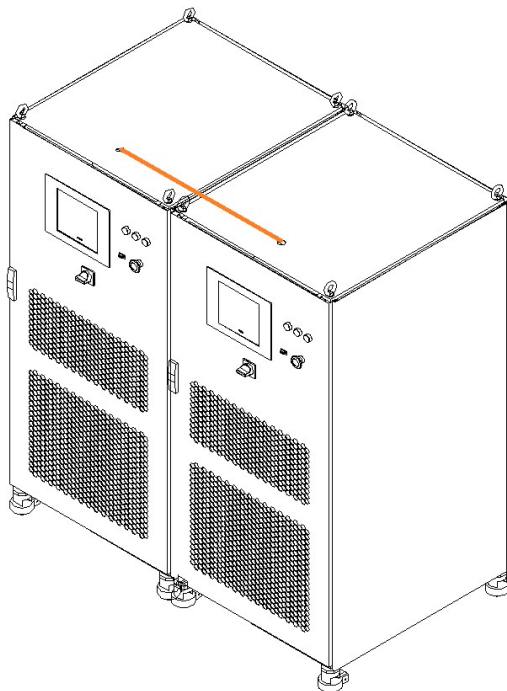

Figure 1-23
Step 1: Pass the fiber optic cable through the cable holes on the top of the cabinet, as shown in Figure 1-23.